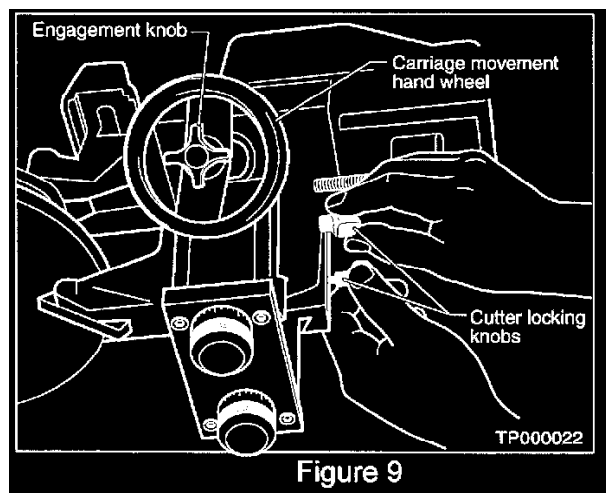

Figure 9
14. Tighten the cutter locking knobs (see Figure 9).
17. Tighten the engagement knob in the center of the carriage movement hand wheel (see Figure 9) to start the cutting process. When the cutting bits clear the outer edge of the rotor, loosen the engagement knob to stop the carriage movement.